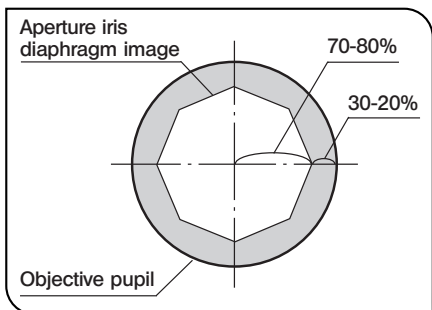

Fig. 31
**Aperture Iris Diaphragm (Figs. 31 & 32)**
- Since the contrast of microscope specimens is ordinarily low, setting the condenser aperture iris diaphragm to between 70 and 80% of the NA. ② of the objective in use is usually recommended. Adjust the ratio by removing the eyepiece and looking into the eyepiece sleeve while adjusting the aperture iris diaphragm ring ① until the image shown in Fig. 31 is seen.